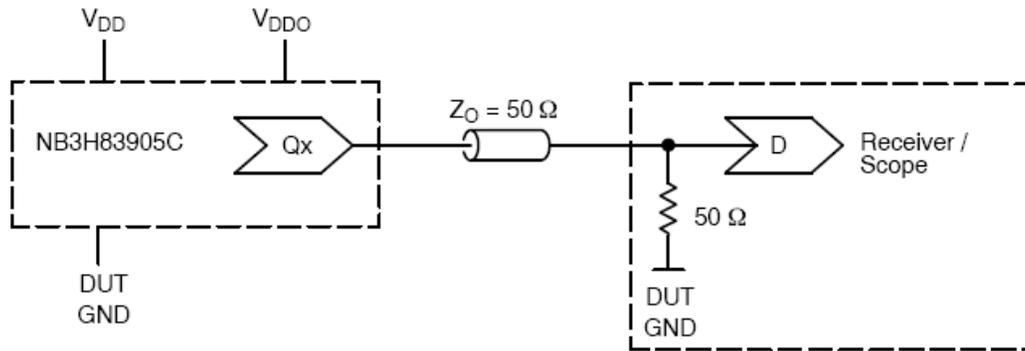

Figure 4. Typical Device Termination Setup and Termination Test Setup
- 1) **Test Supply Setup:** VDDO and GND Supplies may be centered on 0.0 V to permit direct connection to an Oscilloscope module (with 50 Ohm to GND) per Figure 4 and Table 1. Connect all board supplies using banana jack or clip anvil.